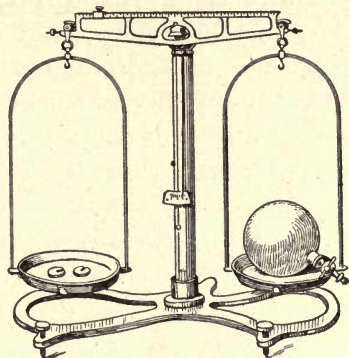

FIG. 71.— Weighing Air.
**Experiment 16.** — Exhaust the air from the hollow globe of a Florence flask and weigh the flask carefully on a suitable balance. Then admit air to the flask and weigh again (Figure 71). What is the result? A cubic foot of air weighs a little more than one and one quarter ounces.